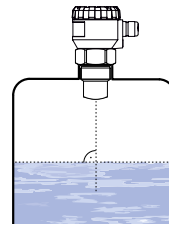

Fig. 1: Recommended installation in the tank
- Install the level meter in the **vertical position** into the upper lid of the tank or reservoir using a welding flange, a fastening nut or a flange so that the level meter axis can be perpendicular to the level of the measured liquid (Fig. 1).